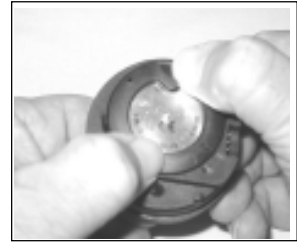

Fig. 63 - Retaining Ring Tabs
- Using your fingers, turn the Ring counter clockwise 5 degrees until the tabs engage (Fig. 50), then tighten it 5 more degrees by turning it counter clockwise with the aide of a small blade screwdriver (Fig. 63).